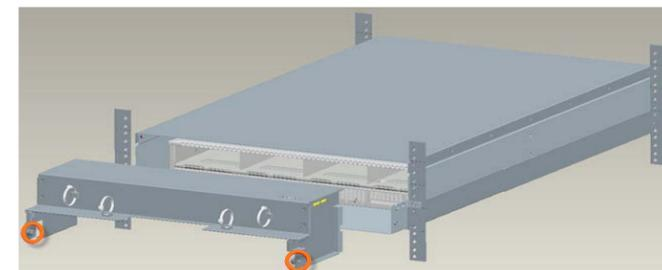

Figure 5: Attaching the Front Stop Assembly
1. Slide the front stop assembly (identified by *Front Stop*) in over the draped cables while taking care not to pinch the cables. Secure the front stop assembly in place by threading the captive screws (indicated in Figure 5).